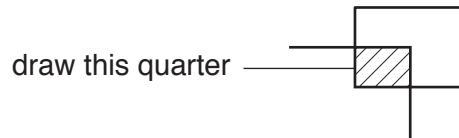

Fig. 2.1
- (i) Draw a large plan diagram of the quarter of the stem, as shown in Fig. 2.1.